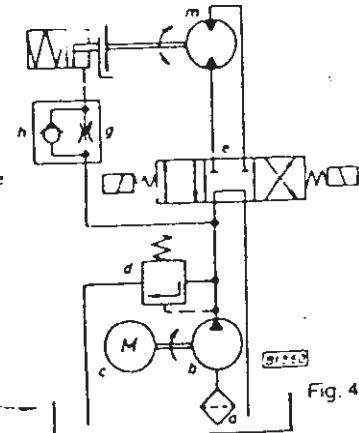

Fig. 4
7.2 Open loop circuit: oil returned to the sump. (fig. 4)